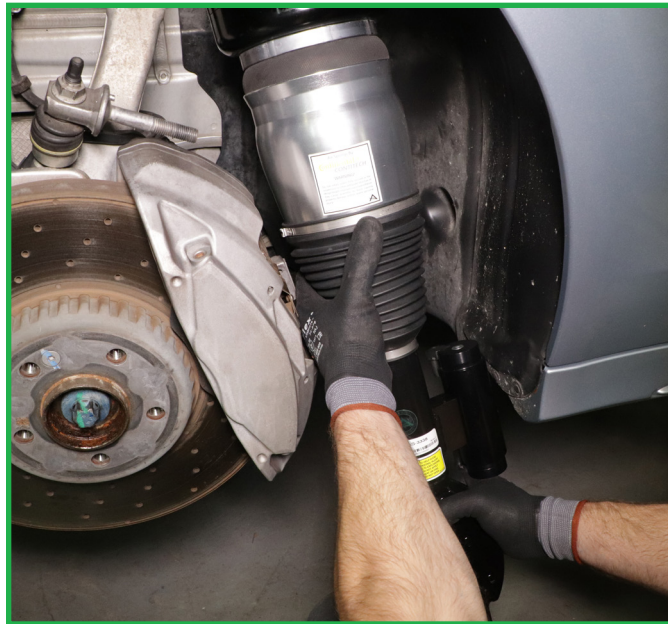

FIGURE 13
1. Install the new air strut on the vehicle. (Figure 13)